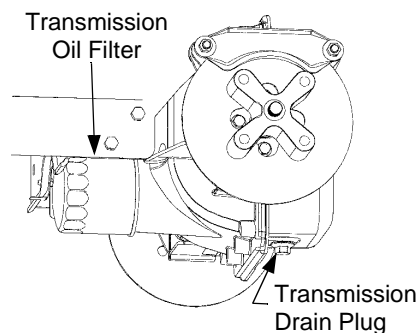

Figure 20
- Clean the area around the transmission drain plug to prevent debris from entering the transmission case. Remove the drain plug and allow the transmission oil to drain into a clean container having a capacity of more than 5 quarts. Reinstall the drain plug. See Figure 20.